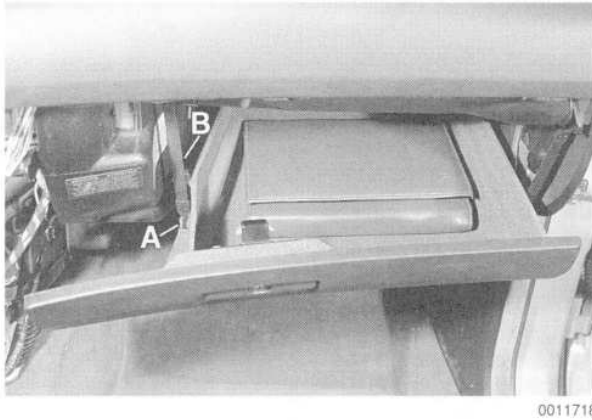

Fig. 11. Glove box support strap (B) and strap retaining clip (A).
1. Open glove box and disconnect support straps from left and right sides of glove box. See Fig. 11.